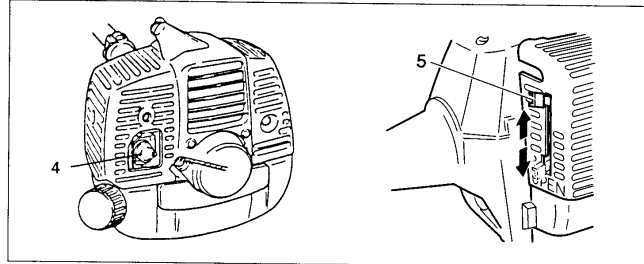

Fig. 2-6
*Push priming bulb (4) several times so that fuel flows through the bulb or return pipe. (if so equipped) (Fig. 2-6,7)
2. With the safety trigger (2) pressed (if so equipped), pull throttle trigger and push throttle lock (3), then slowly release the throttle trigger first, then the safety trigger. This will lock the throttle in starting position.
3. Set choke lever to CLOSED position (5). (Fig. 2-6,7)